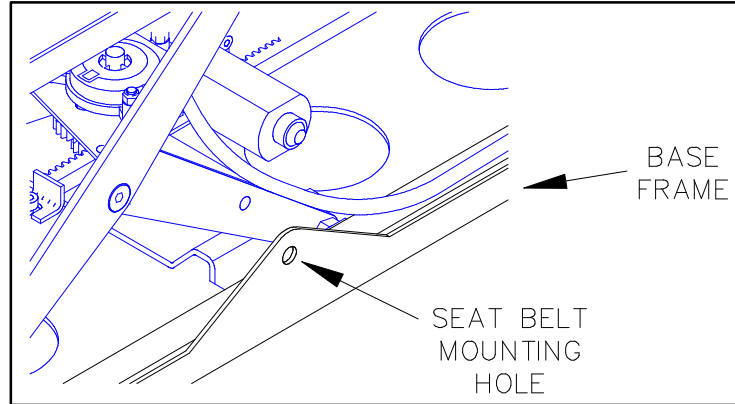

FIGURE 2-9: SEAT BELT MOUNTING LOCATION
- b. If factory seat belts and shoulder harness were attached to factory seat base or their mounting holes covered by Power Seat Base, refer to **Figure 2-9** and attach to Base Frame using original or equal strength hardware.